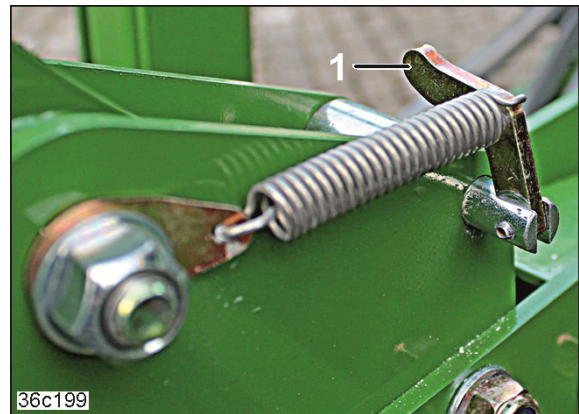

Fig. 204
3. Sving griperen (Fig. 204/1) oppover.